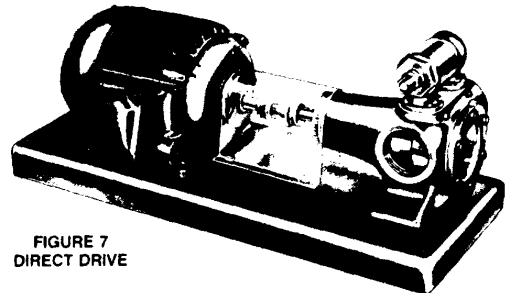

FIGURE 7
4. Make a final check on alignment after piping is hooked up. See item 13 under "Installation - Piping". Figures 7, 8, and 9 show typical units--direct, gear reducer and V-belt drive.